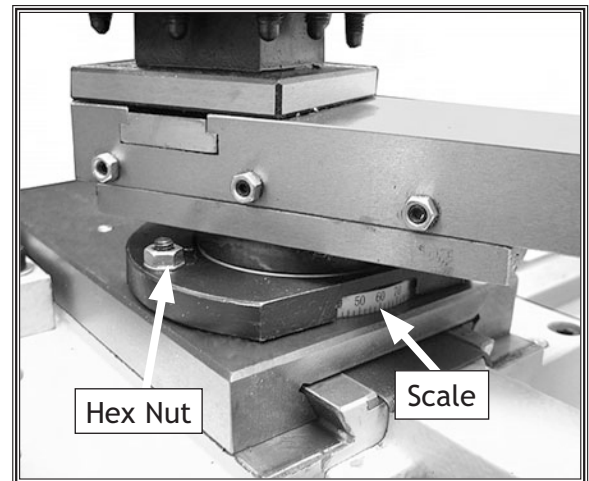

Figure 25. Compound rest, scale, and hex nuts.
1. Loosen the hex nuts on each side of the compound rest (see Figure 25).